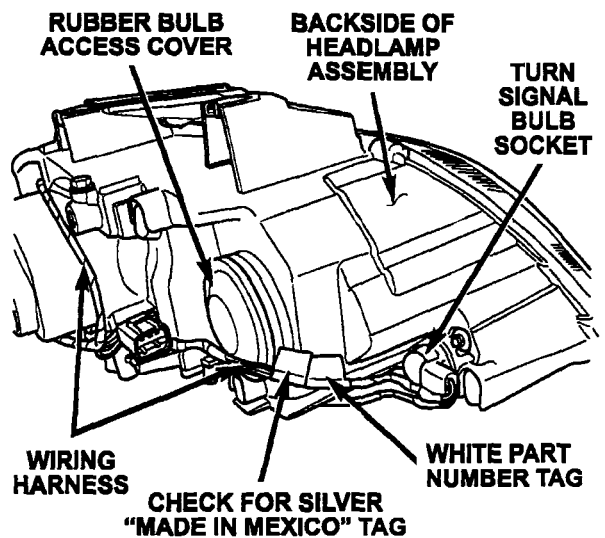

Figure 2 – Driver’s Side Shown
3. Carefully pull out each headlamp assembly (one at a time) from the fascia and inspect **each** headlamp wiring harness for a silver “Made in Mexico” tag (Figure 2).